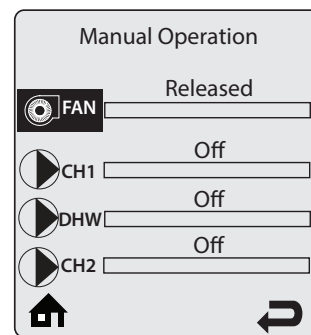

Figure 7 CTRLMax Manual Operation
4. Make sure that the FAN icon is highlighted. Press the center button to manually fire the burner and apply power to the CH circulator. Refer to Figure 7.
5. Adjust the Natural Gas (NG) supply regulator provided by the gas supplier for 13-inch W.C. maximum pressure at flow or no flow conditions to the burner. There must be a minimum 5-inch W.C. during flow conditions to the burner.